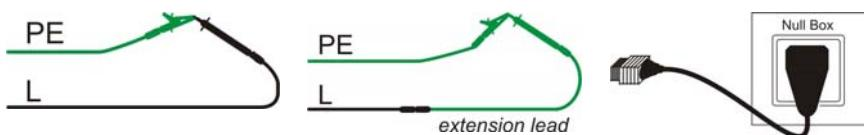

Figure 5.1: Shorted test leads
- **Connect** test cable to the instrument and short the test leads together appropriately (see *figure 5.1*).